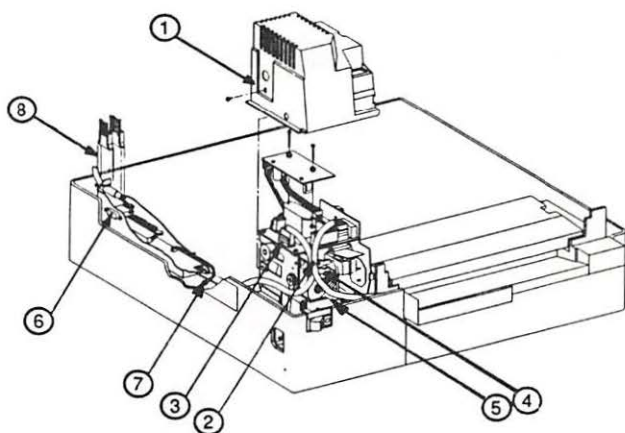

FIGURE 2-44
13. Remove the mounting connector plate (Figure 2-44, #6) as follows:
- a) Disconnect the grey-and-white ground wire that comes from the mounting connector plate (Figure 2-44, #7) by removing its grey screw.
14. Unplug the two white-and-black cables from the connectors behind the mounting connector plate (Figure 2-44, #8).